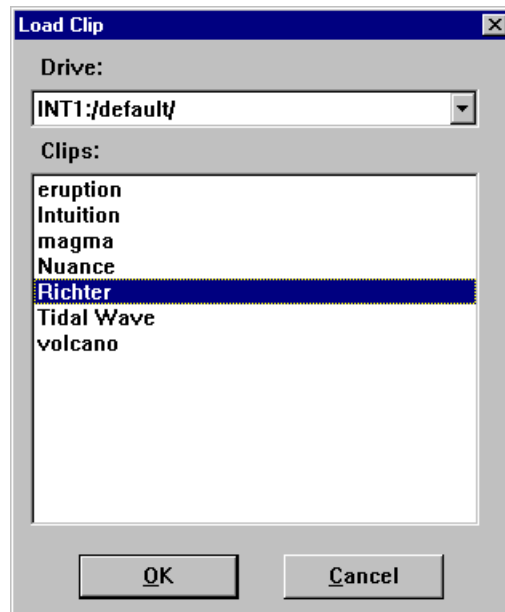

Figure 92. Load Clip dialog box
5. Select the clip to load—*Richter* in this example (see Figure 92).